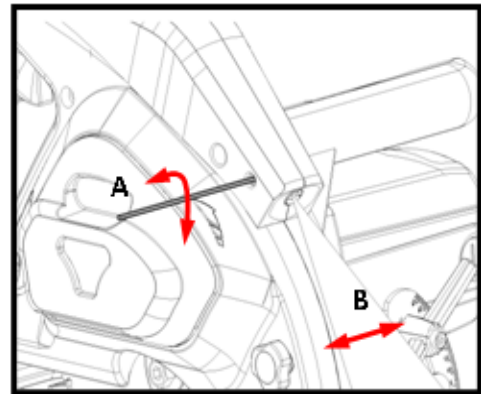

Fig. 10
1. Adjusting the laser: Use an M2 Allen wrench to tighten or loosen the laser adjustment screw (A) to adjust the laser beam width. Fig.10